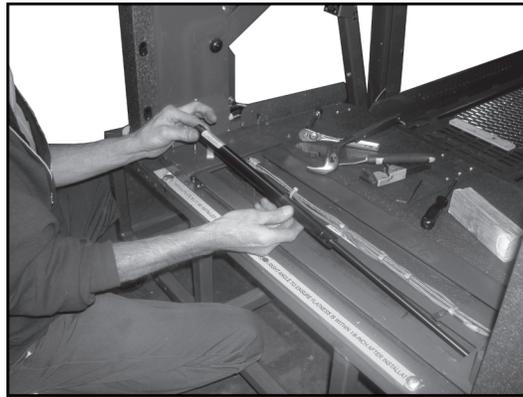

FIGURE 3-19
3. Refer to **Figure 3-19**. Slide gas spring inward then lift and remove from baseplate.
9. Place gas spring (P/N 39368) in baseplate as shown in **Figure 3-19**.